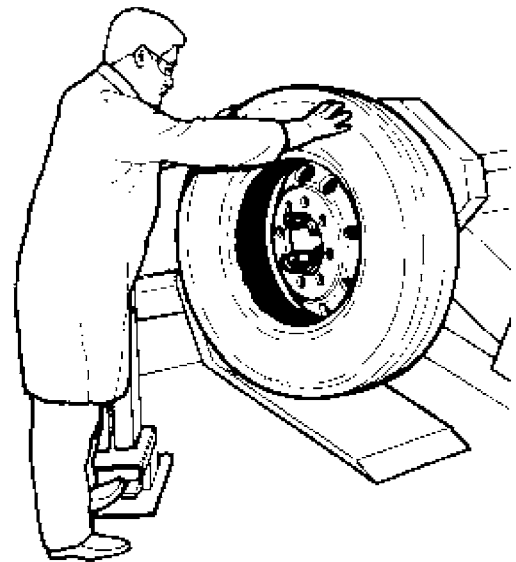

Fig.23
8. Move to the front of the tire and hold it with both hands in the last part of demounting operation to prevent the tire from falling or rolling away out of control (fig.23).